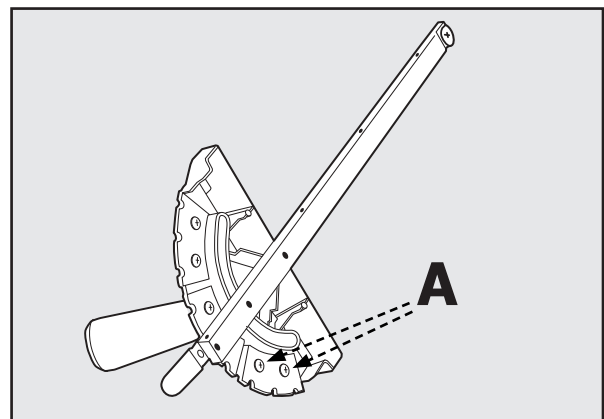

FIGURE 41
2. Loosen the 2 screws for the miter stop segment for the desired new angle. (A) is shown in Figure 41.